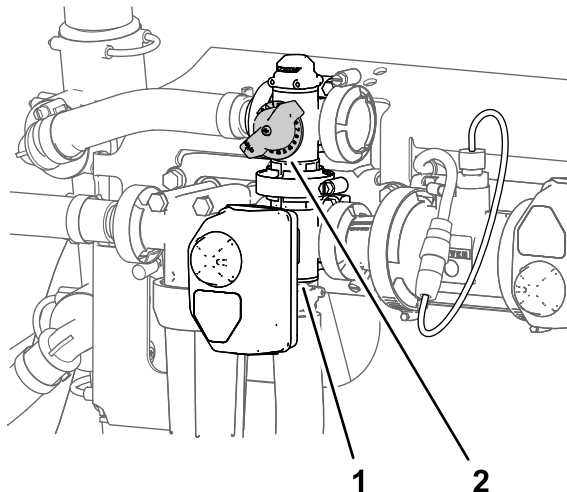

Figure 243
- Adjust the agitation-bypass valve (Figure 243) until the gauge indicates 689 kPa (100 psi) sprayer system pressure.